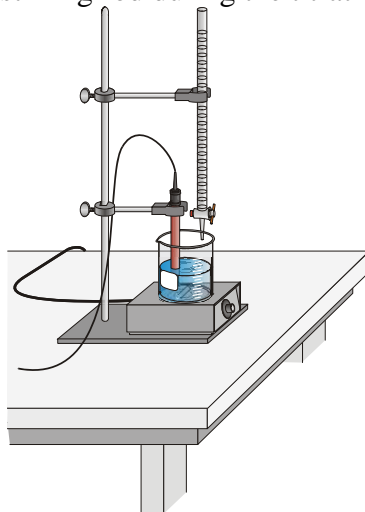

Figure 3
4. Use a utility clamp to suspend a pH Sensor on a ring stand as shown in Figure 3. Position the pH Sensor in the KHP solution and adjust its position toward the outside of the beaker so that it is not struck by the stirring bar.
5. Obtain a 50-mL buret and rinse the buret with a few mL of the ~0.1 M NaOH solution. Record the precise concentration of the NaOH solution in the Data and Calculations table. Use a utility clamp or a buret clamp to attach the buret to the ring stand as shown in Figure 3. Fill the buret a little above the 0.00-mL level of the buret. Drain a small amount of NaOH solution so it fills the buret tip *and* leaves the NaOH at the 0.00-mL level of the buret. Dispose of the waste solution from this step as directed by your teacher. *CAUTION: Sodium hydroxide solution is caustic. Avoid spilling it on your skin or clothing.*